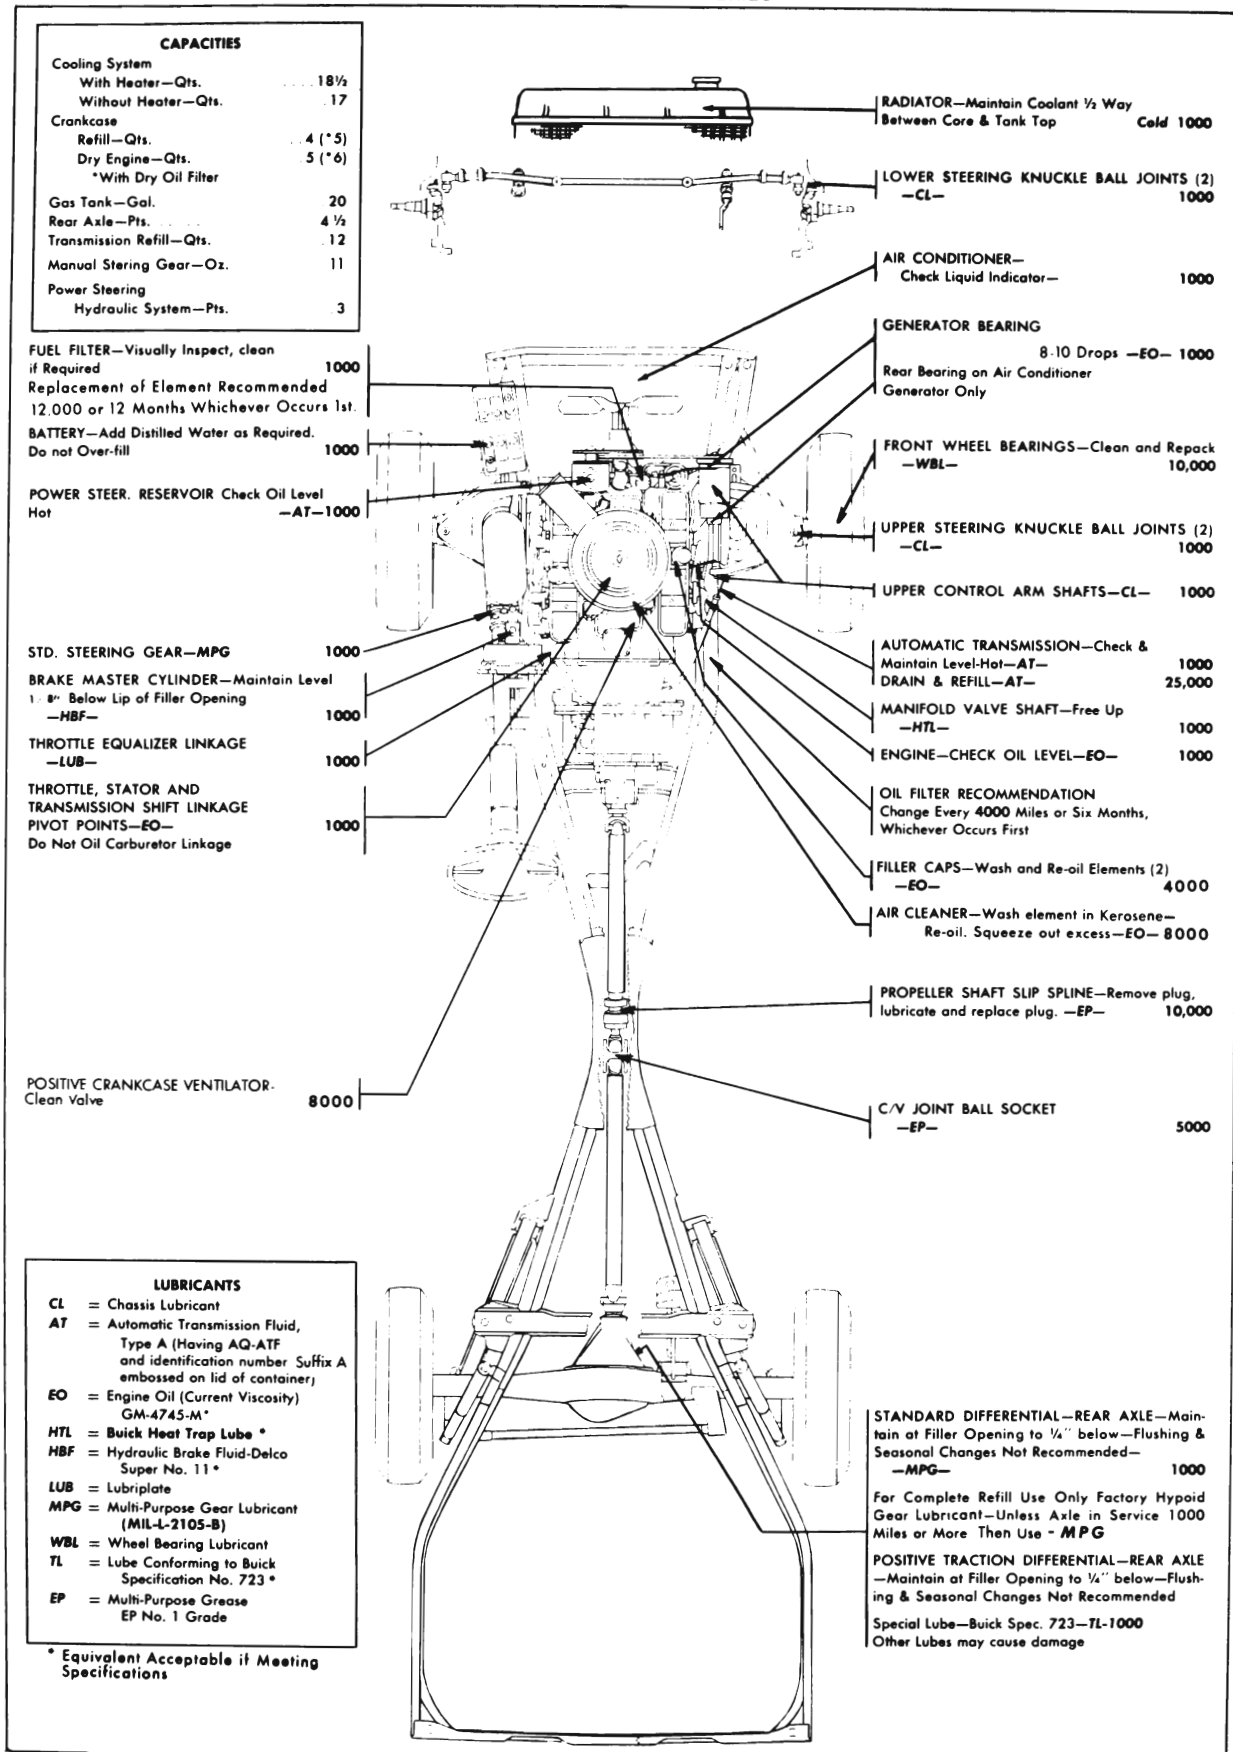

Figure 1-2—Chassis Lubricare Chart Series 4400-4600-4800
2. Front Suspension and Steering Linkage, Lubrication Fittings. Wipe dirt from lubrication fittings, then apply a good grade of water resistant chassis lubricant, under pressure, at the following points (Figure 1-2):